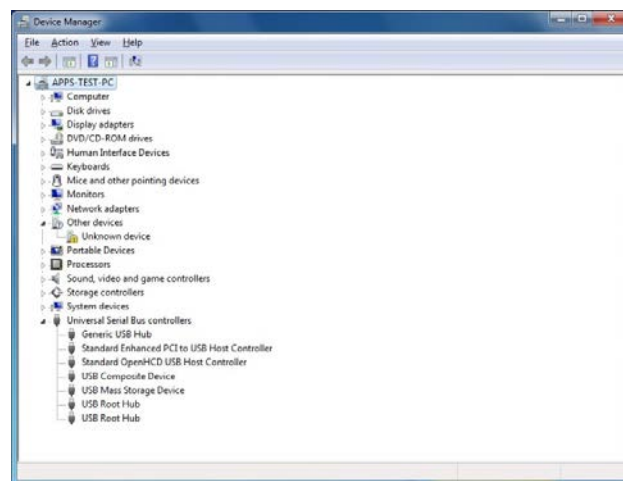

Figure 7. Device Manager
1. Find the new unknown device (the evaluation board) in **Device Manager** and double-click it to open the properties. The device should be **Unknown device**, under **Other devices** (see Figure 7).